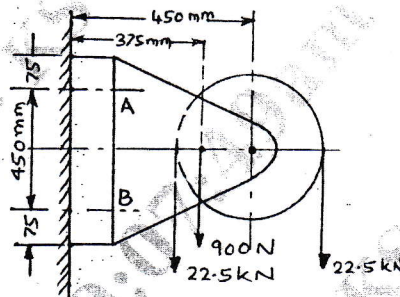

Fig. Q4 (b)
- b. A pulley bracket as shown in Fig. Q4 (b) is supported by 4 bolts, two at A – A and two at B – B. Determine the size of the bolts using an allowable shear stress of 25 MPa for the material of the bolts. (10 Marks)